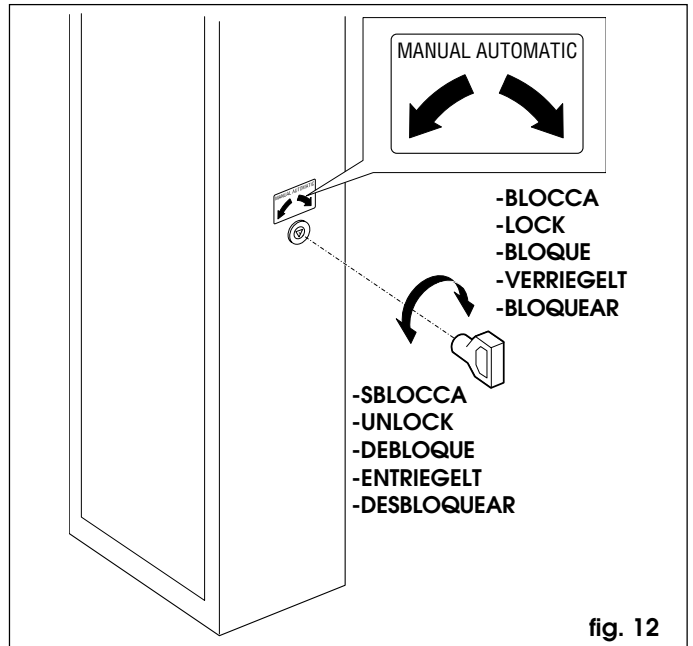

fig. 12
- Fit the standard triangular key (Fig. 12) in the lock and turn it **anti-clockwise** through 1 turn.